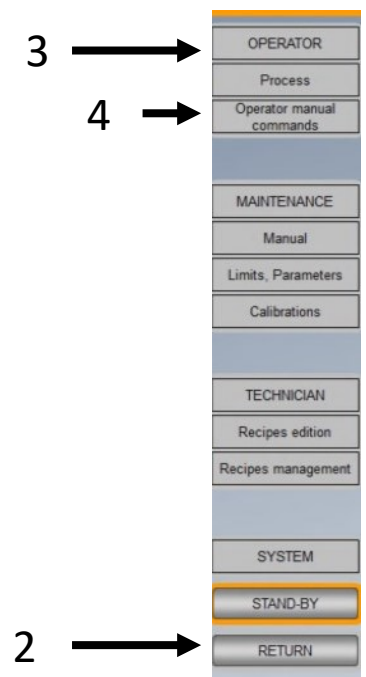

Fig. 1 : Command bar
2. Stop the standby mode (Fig. 1) by pressing "Return".